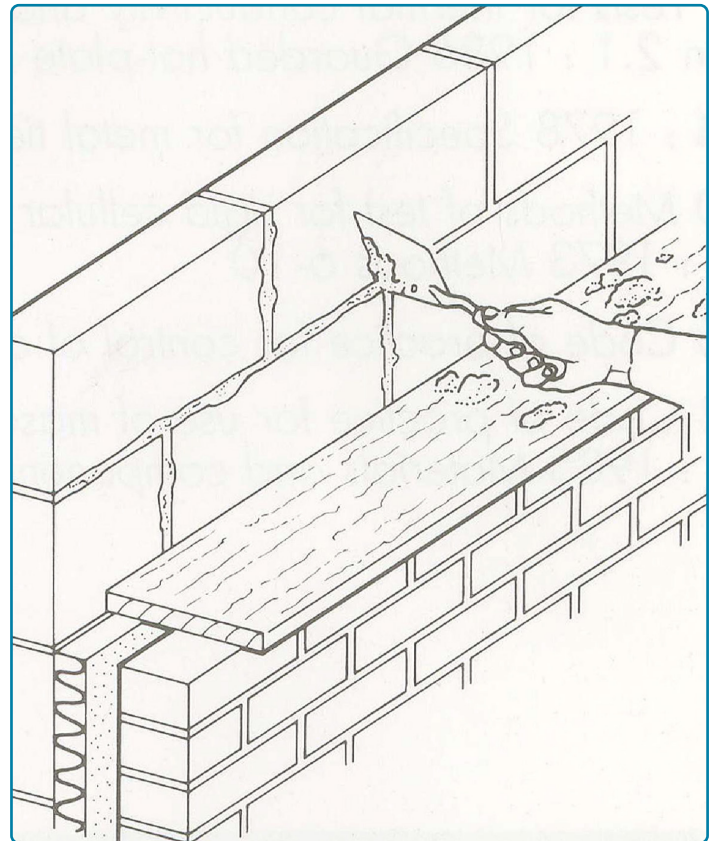

Figure 3
1.4 After each section of leading leaf is built, excess mortar should be removed from the cavity face and mortar droppings cleaned from exposed edges of the installed board, before installation of the next run of boards. Use of a cavity board is recommended to protect board edges and make cleaning easier. Also a cavity batten will protect the installed boards and help to keep the cavity clean as the following leaf is built (figure 3)